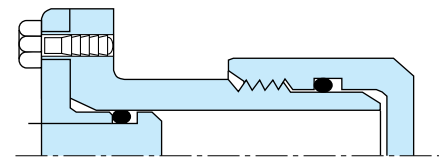

Fig. 1-11
The O-ring cross section is squeezed radially in the groove between the inside (ID) and outside (OD). See figure 1-11.